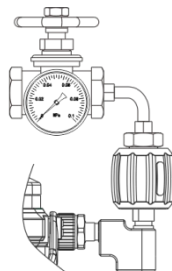

Figure 32 Calibration of the valve opening gauge
- ◆ Connect the calibrator and the valve opening gauge as shown in Figure 32.